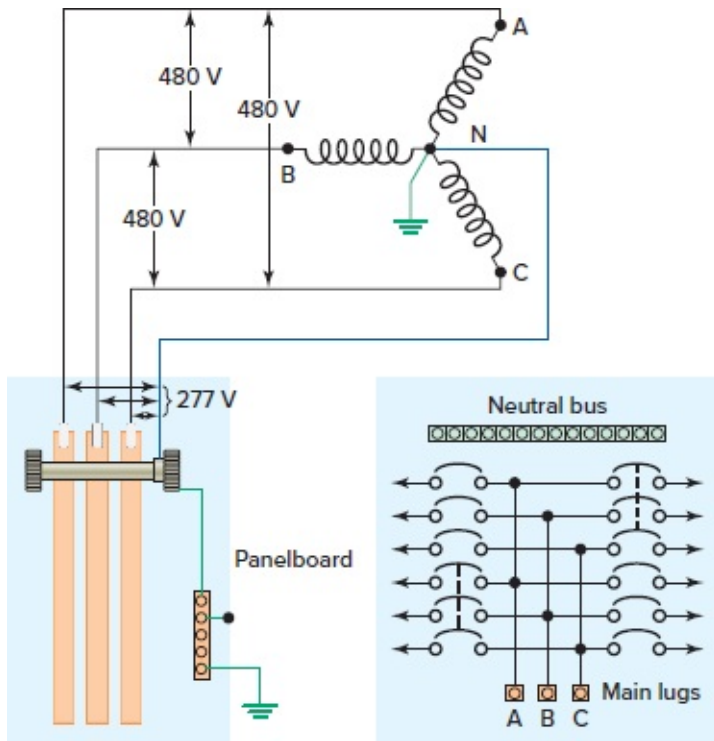

Figure 3-11 Wiring for a 277/480 V, three-phase, four-wire panelboard.
Figure 3-11 shows the typical internal wiring for a 277/480 V, three-phase, four-wire panelboard equipped with circuit breakers. This popular system used in industrial and commercial installations is capable of supplying both three-phase and single-phase loads. From neutral (N) to any hot line, 277 V single-phase for fluorescent lighting can be obtained.